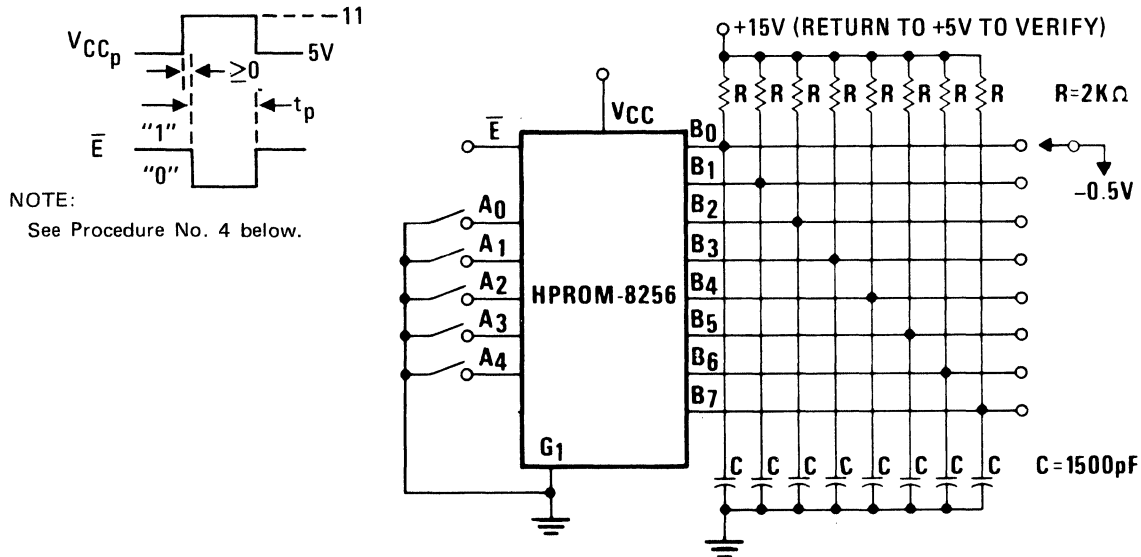

FIGURE 1
1. Connect the PROM as shown in figure 1.